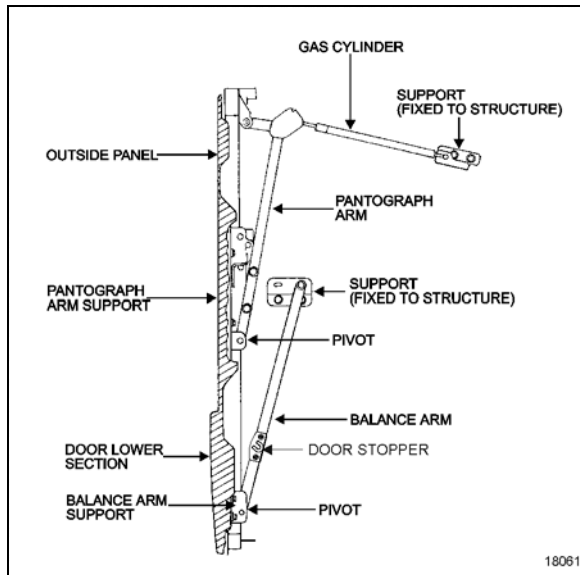

FIGURE 65: BAGGAGE COMPARTMENT DOOR
*Refer, if needed, to Figure 65 for identification of door components.*